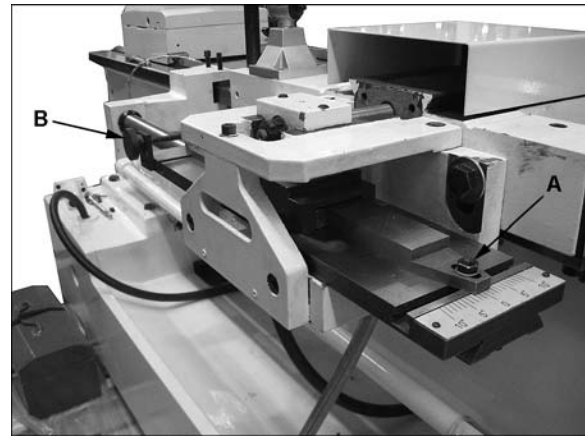

Figure 12
1. Loosen screws (A, Figure 12) at each end of slide.
2. Use fine adjustment knob (B, Figure 12) to set angle according to scale at end of slide.